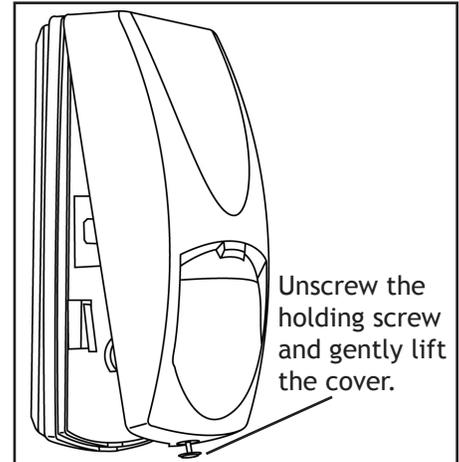
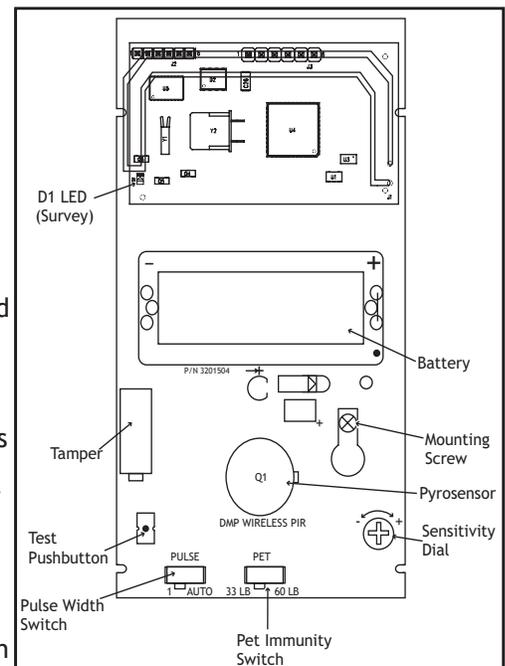
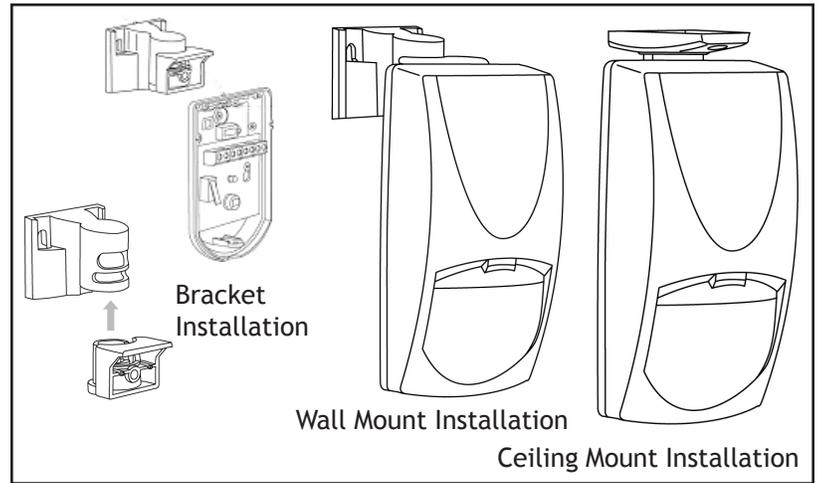

Figure 1: Remove the Cover
Figure 3: 1121-WINT PIR Circuit Layout
Figure 5: Optional Bracket Mounting
The PIR transmitter provides a survey capability to allow one person to confirm transmitter communication with the receiver while the cover is removed. Refer to Figure 1 to remove the PIR front cover. The PIR transmitter PCB Red Survey LED turns on whenever data is sent to the receiver then immediately turns off when the receiver acknowledgement is received. Pressing the PIR tamper switch is a convenient way to send data to the receiver to confirm operation. The PIR circuit board LED lights to indicate motion and the Survey LED briefly lights to confirm operation. See Figure 3 for LED locations. See Installing or Replacing Batteries.
Use the switches and dial located on the unit PCB to set sensitivity and pet immunity as shown in Figure 3. Use the following to determine the appropriate switch settings for an application.
The test push button is located below the tamper switch. Use this button to activate the detector Walk Test and RF transmission test modes. Perform the steps following each test option to verify operation. Refer to Figure 3 to identify the test push button location. Before performing any of the tests, ensure the 1121-WINT PIR is currently programmed in the panel.
1. Use a Phillips head screwdriver to unscrew the holding screw at the lower end of the 1121-WINT case, gently raise the front cover, and slide the cover out of the closing pins. Refer to Figure 1.
2. Use a Phillips head screwdriver to loosen the mounting screw located on the PIR printed circuit board (PCB) and slide the PCB out of the unit. See Figure 3 for the mounting screw location.
The 1121-WINT PIR can optionally be attached to a corner/ceiling mounting bracket. The bracket can be mounted to the ceiling or a wall location. Refer to Mounting the Unit, Figure 1 and Figure 5 as needed.
2. Remove the front cover. See Figure 1.
4. Observe polarity and insert the lithium battery into the battery holder where indicated in Figure 3.